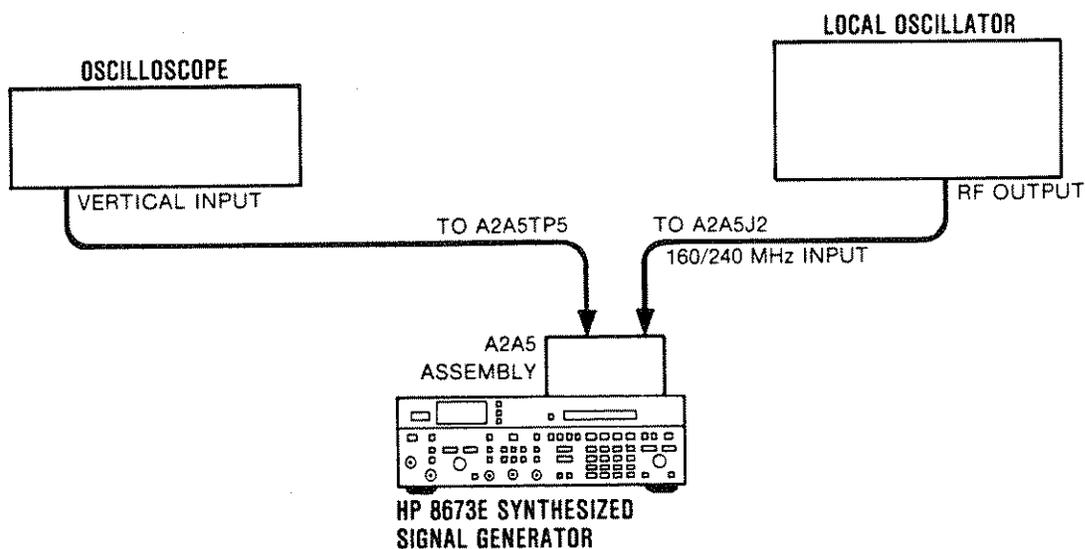

Figure 5-7. 20/30 MHz (LFS) Loop Divider Bias Adjustment Test Setup
7. Connect the equipment as shown in Figure 5-7.